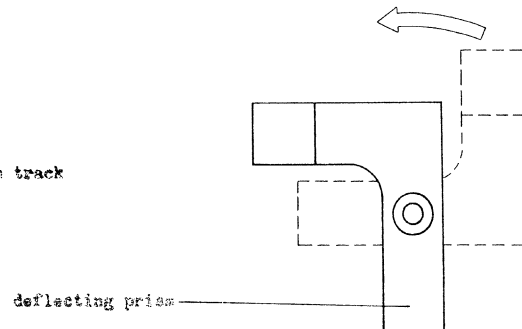

Fig. 21.1
3. Rotate the deflecting prism of the stop indicator - and viewfinder adjustment rig as shown in Fig. 21.1. Engage the clip-on collimator 08-27.10 Z1 W14 in the front plate in place of the accessory lens.
8. Rotate the deflecting prism to the right through 90° (see Fig. 21.1).